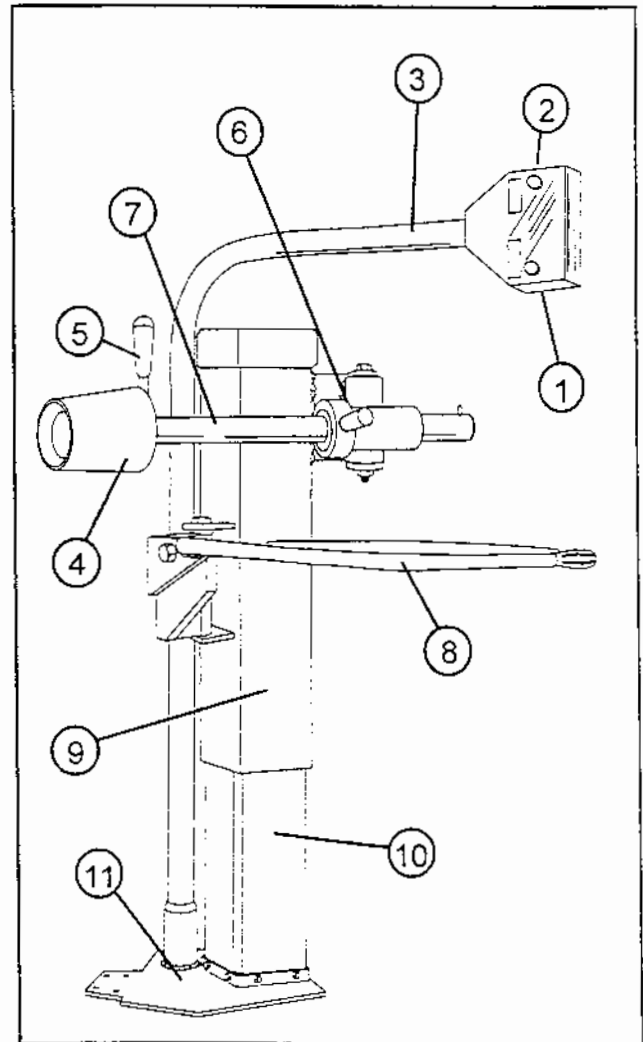

Figure 4 - Nomenclature
Before using the 87434 Bead Assist Attachment, it is suggested that you become familiar with the nomenclature of components (Figure 4).
A. Press the raise button (#2 Fig. 4) to raise the column and consequently the roller and the lower bead-push device.
B. Press the descent button (#1 Fig. 4) to lower the mobile column and consequently the roller and the lower bead-push device.